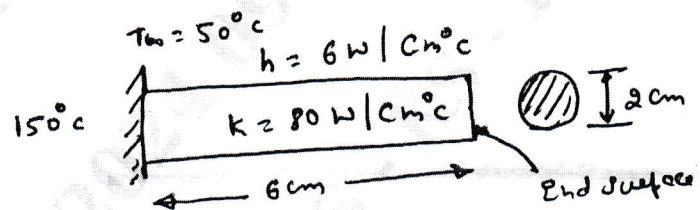

Fig Q7(b)
b. Find the temperature distribution in 1D fin as shown in Fig Q7(b)